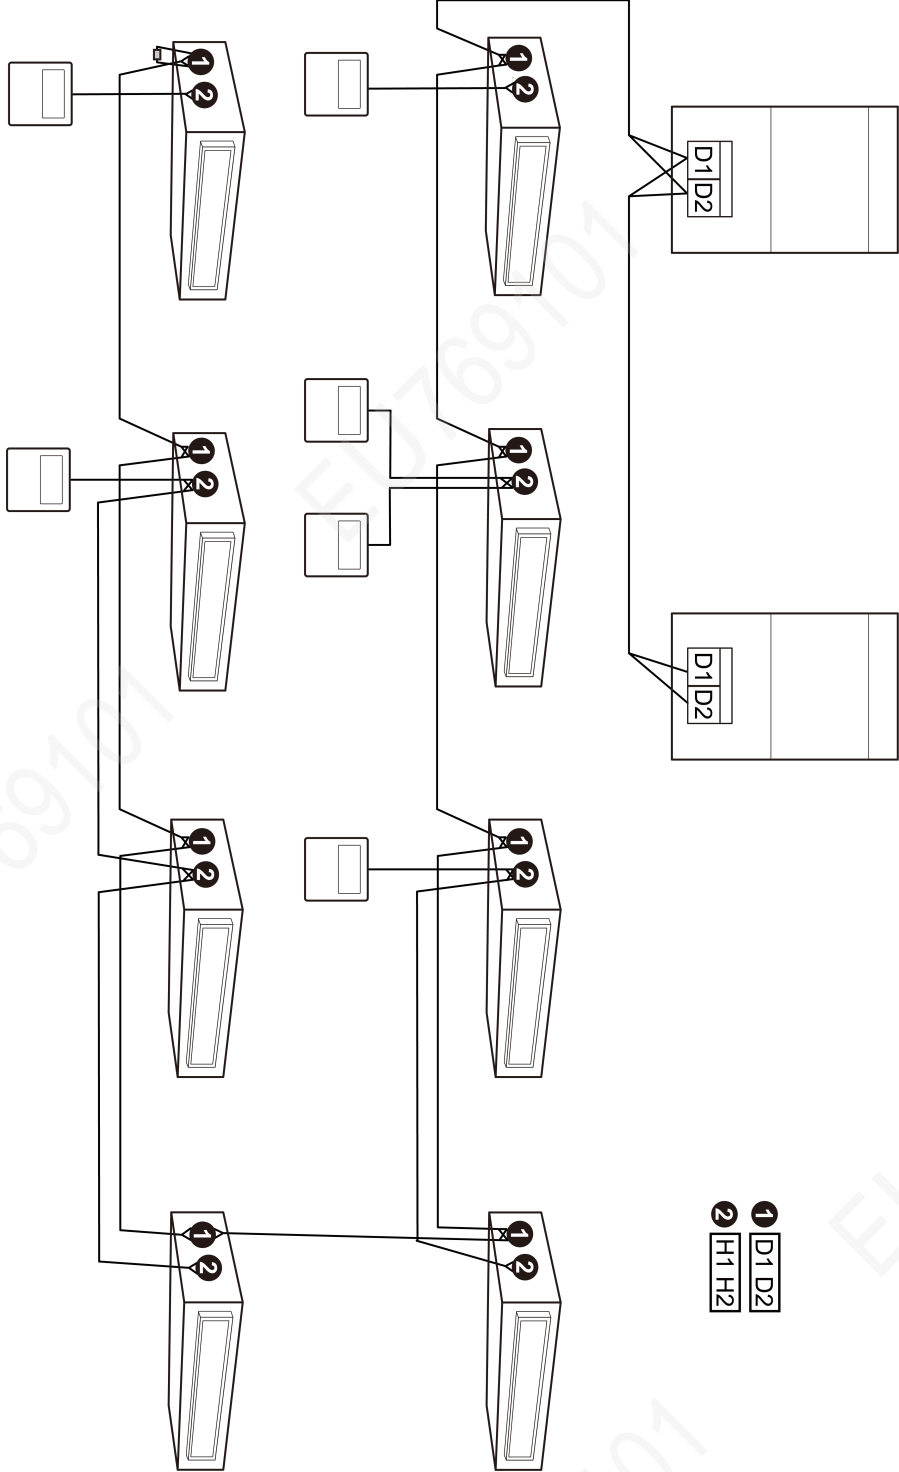

Fig 5.7
- (1) Communication between IDU and ODU is D1 while communication among each IDU is D2.
- (2) Communication between IDU and wired controller is H1, H2.
- (3) One indoor unit can connect two wired controllers (master wired controller and sub-master wired controller).
- (4) One wired controller is able to control 16 indoor units at the same time. (shown in Fig 5.7)
- ① When the wired controller is controlling multiple indoor units at the same time, the indoor units must be of the same model.
- ② When two wired controllers are controlling the indoor units, you need to set an address for each wired controller. Address No.1 refers to master wired controller while address No.2 refers to sub-master wired controller. They should not share the same address. For specific setting methods, please refer to installation manual of wired controller.